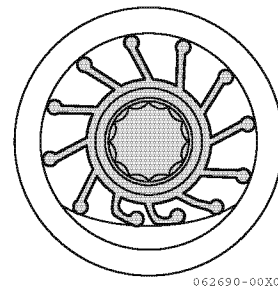

Figure 9
4. When installing the impeller, position blades of the impeller as shown in the illustration. (**Figure 9**)